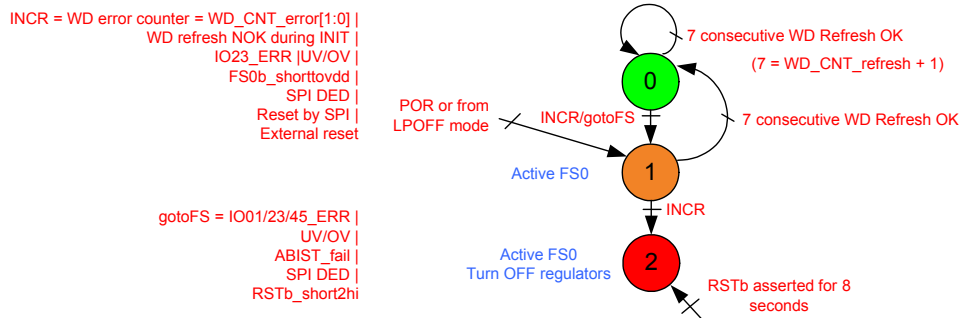

Figure 17. RSTB Error Counter(RSTb_err_FS = 1)
- RSTB_err_FS = 1 / Intermediate = 1; Final = 2 (Figure 17). When reset error counter reaches 2, the device goes into deep reset and fails.